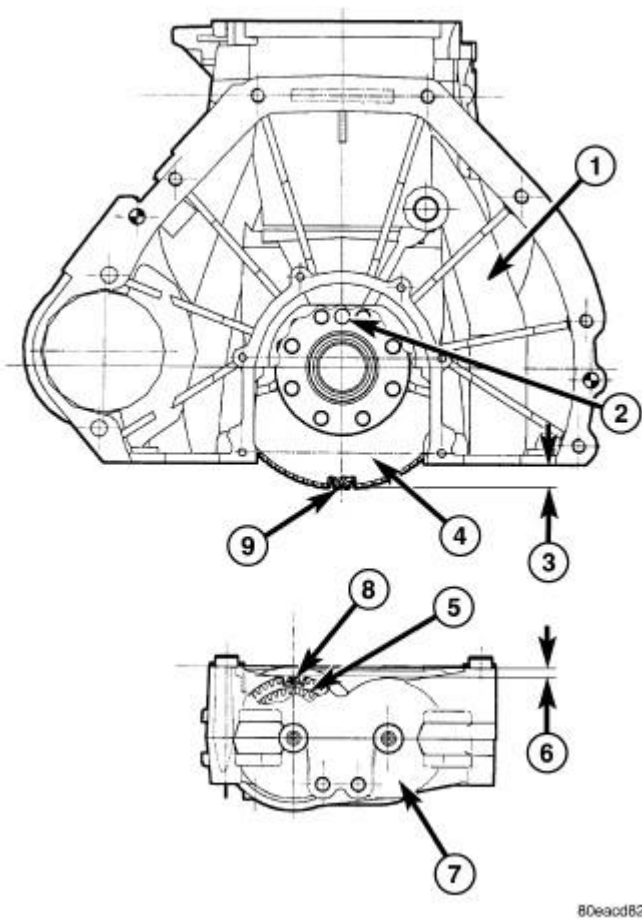

Fig. 163: Measurements for Determining Shim Thickness
1. Measure and determine dimensions A (6) and B (3) by measuring in the center of the gears. See **Fig. 163** . Measure 4 times approximately 90° apart. Determine mean of the 4 measurements.